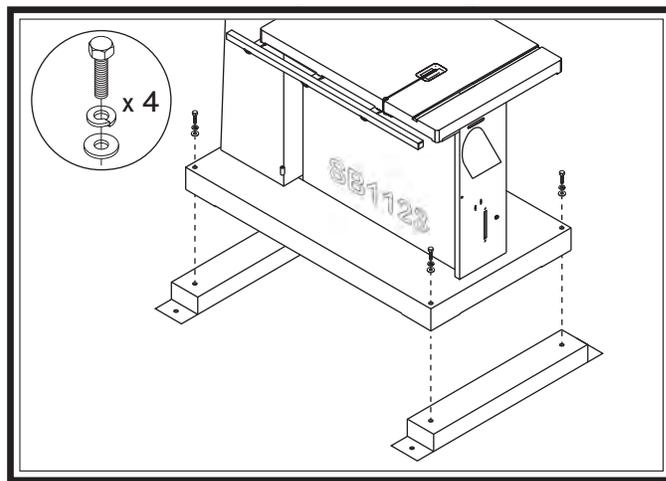

Figure 22. Riser block location and installation hardware.
- Insert (4) hex bolts, lock washers, and flat washers (see Figure 22) through holes in base of machine.
- Align hex bolts with threaded holes in riser blocks (see Figure 22) and securely tighten.